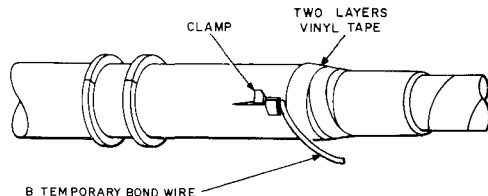

Fig. 12—Binding Tab Ends Down—Excess Tab Length is Now Trimmed Off
3.14 Bind down the tabs with at least two layers of vinyl tape to hold the clamp firmly in place. Position the other inner clamp at the correct spacing and bind down the tabs. Do not cover the projecting ears of the clamps because this will prevent electrical connection with the splice case and bonding of the metal shield (Fig. 12). Do not wrap tape over the clamping area. ***Tape buildup will interfere with the seating of the inner sheath clamp in the splice case halves.*** After taping, remove the excess 1 inch of tab length.
3.15 Place a **B** temporary bond across the splice opening (Fig. 12).